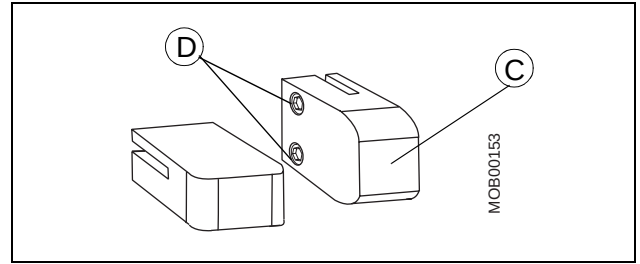

*Fig. 4 Safety stops with locking screws*
- Secure the safety stop by means of the two locking screws, see *Fig. 4*.